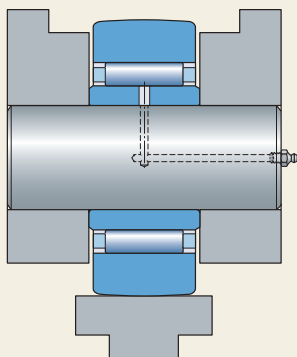

Fig. 12
- over the entire flange ring side faces (fig. 12)
- support rollers with flange rings (fig. 12)